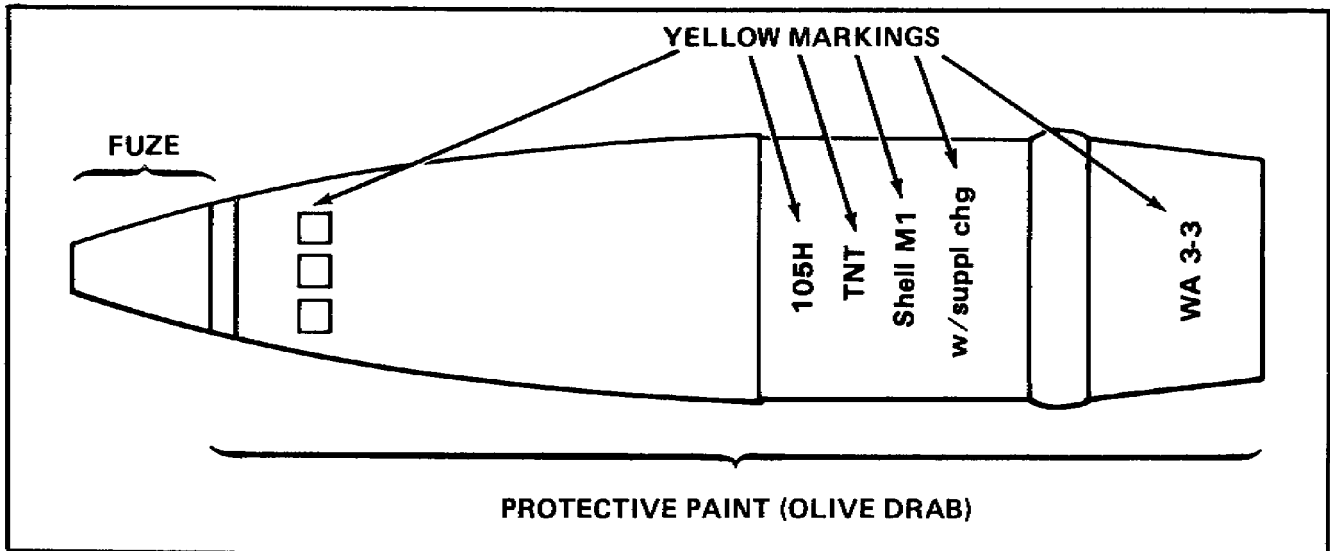

Figure 4. HE Projectile.
The primary use color may be on the markings or on a band around the item when it is not practical to use it as a base color. The high-explosive (HE) projectile in figure 4 is an example of the use of color on the markings. The base color is olive drab, which has no meaning; but the yellow markings clearly designate it a high-explosive projectile.